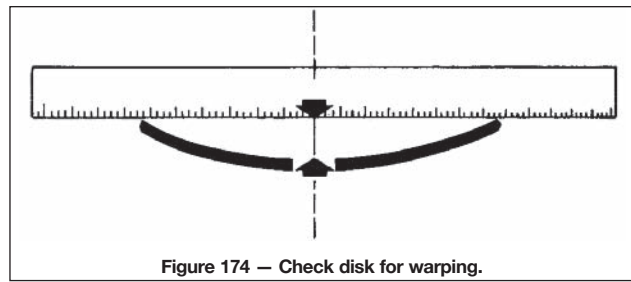

Figure 174 – Check disk for warping.
- Check that flanges are the correct size and not warped or sprung (Figure 174).